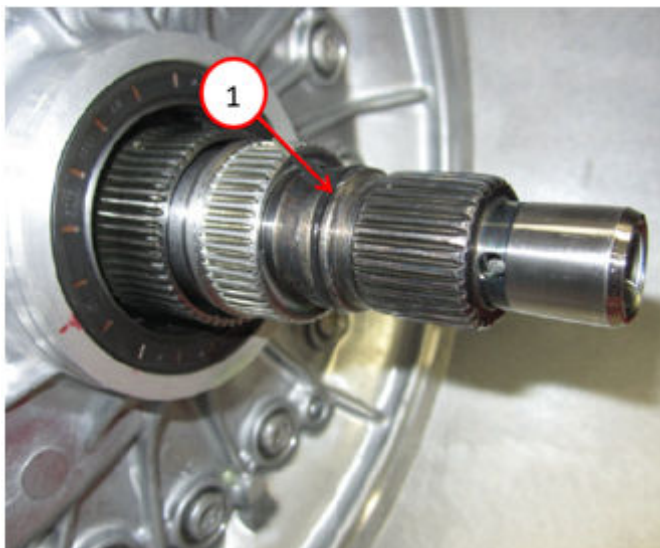

Fig. 38
59. Install the new input shaft O-ring Fig. 38.